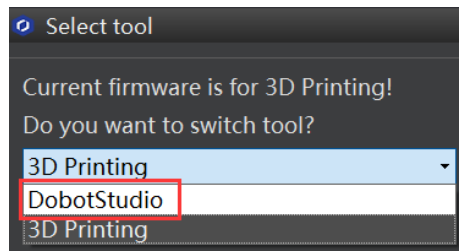

Figure 5.31 Select the DobotStudio to upgrade the Dobot firmware
1. Select **DobotStudio** to upgrade the Dobot firmware, as shown in Figure 5.31.